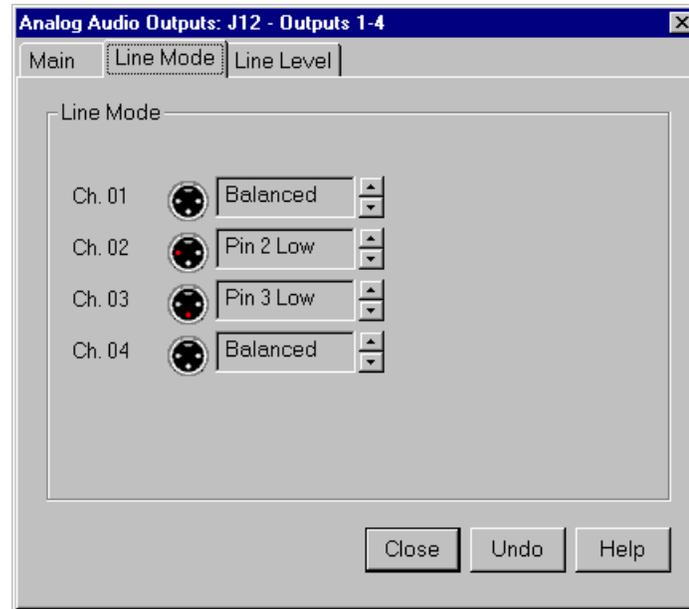

Figure 44. Analog Audio Output dialog box, Line Mode tab
1. In the Analog Audio Output dialog box, click the Line Mode tab (Figure 44).